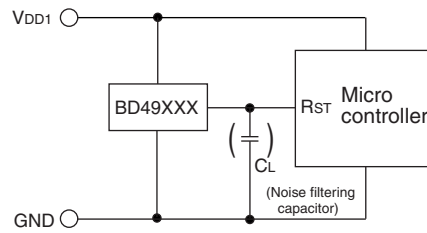

Fig.11 CMOS output type
- When the power supply of microcontroller and that of reset is same (V_{DD1}). A product with CMOS output (BD49XXG/FVE series) can be used as shown in Fig.11. Or if R_L is provided with open drain output (BD48XXG/FVE series) on the V_{DD1} side, it can be used.